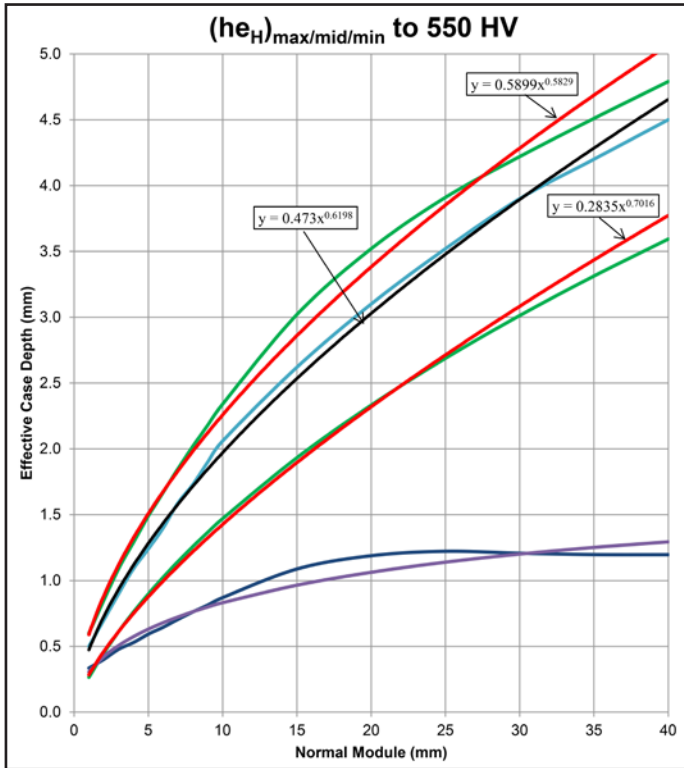

Figure B-2 Derivation of Figure 3.
Method Used to Derive Figure 3. The following text and Figure B-2 explain the methodology used to derive Figure 3 of this report.
- The lower green line in Figure B-2 conforms to the MAAG (Ref. 5) equation: $(h_{eH})_{min} = (m_n/2 + 1.1)^{1/2} - 1$